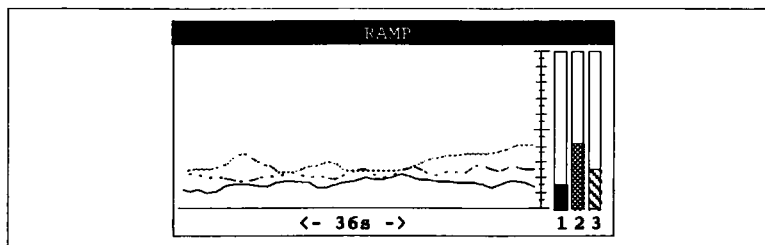

Figure 4.7 *Example Completed ‘Mini-Trend’ Window*
- **TREND** lets you create a small window in which you can trend up to three preselected variables during runtime. An example of a completed ‘mini-trend’ window is shown in Figure 4.7. The three analogue plots also appear at the right of the window as vertical bargraphs with matching bar textures and pen-numbers. Vertical scaling is automatic, based on the variable with the biggest span.